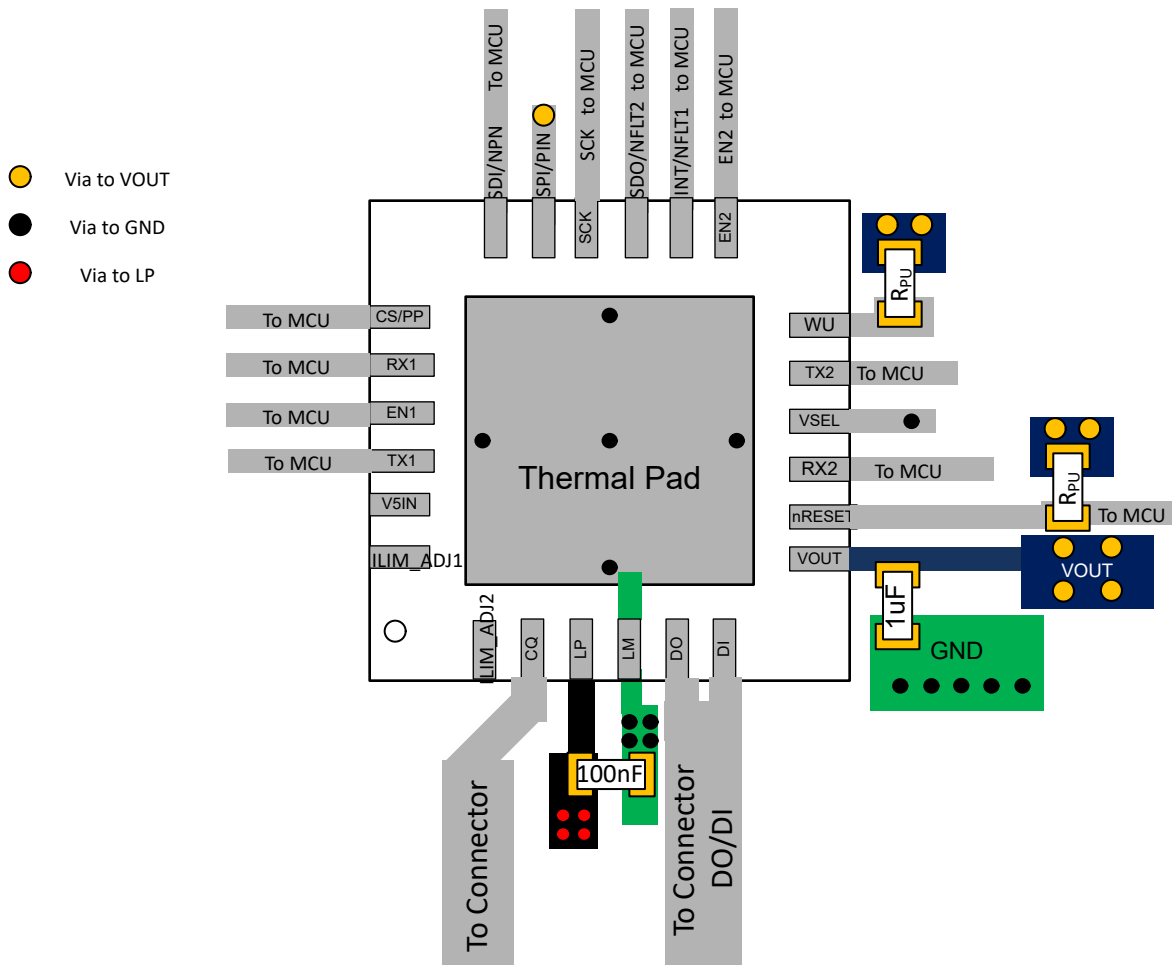

Figure 8-8. Layout Example (SPI mode shown)
- Use of a 4-layer board is recommended for good heat conduction. Use layer 1 (top layer) for control signals, layer 2 as power ground layer for LM, layer 3 for the 24V supply plane (LP), and layer 4 for the regulated output supply (VOUT).
- The optimum placement of the capacitor is closest to the transceiver's LP and LM terminals to reduce supply drops during large supply current loads. See Figure 8-8 for a PCB layout example.